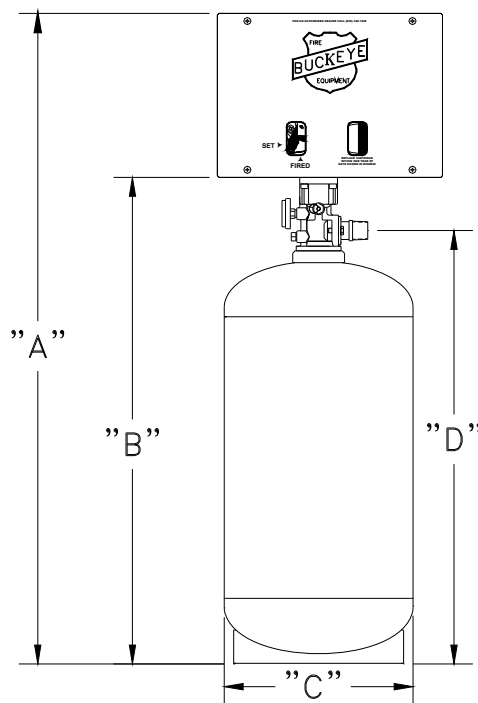

Figure 2-1.
The Buckeye Fire Equipment *Kitchen Mister* Fire Suppression System has available four (4) cylinder sizes; the **Model BFR-5** (5 flow points), **Model BFR-10** (10 flow points), **Model BFR-15** (15 flow points), and **Model BFR-20** (20 flow points). Cylinder sizes are based on the flow point capacity of the cylinder, for example, the BFR-5 is capable of supporting a maximum of five (5) flow points. All cylinders are manufactured, marked, and tested in accordance with DOT 4BW240. Each cylinder is shipped pre-filled with extinguishing agent and charged with dry nitrogen to a pressure of 195 psig (1344 KPa) @ 70° F (21° C). Cylinder and valve assembly dimensions are shown in **Figure 2-1**.